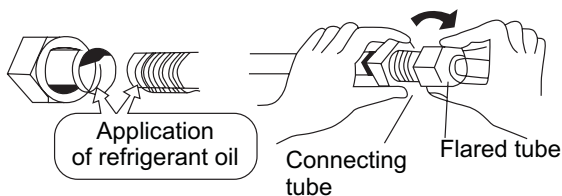

Figure 21
- (3) Align the connecting tube and the flared tube, and then turn the tapered nut to connect tightly. (Figure 21)